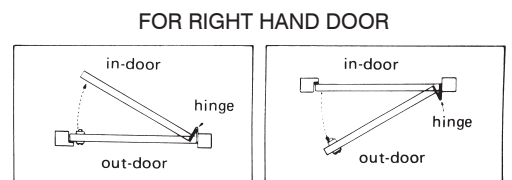

Fig. 2
- After pulling up the PIN by the supplied tweezers, insert it into the right hole sufficiently. (as Fig. 2.)